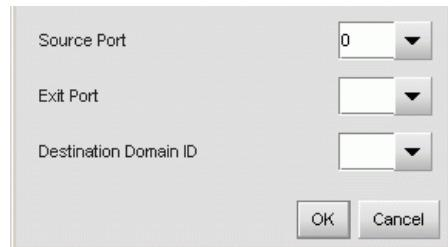

Figure 21: Add Preferred Path dialog box
3. Click **Add**. The Add Preferred Path dialog box displays (Figure 21).